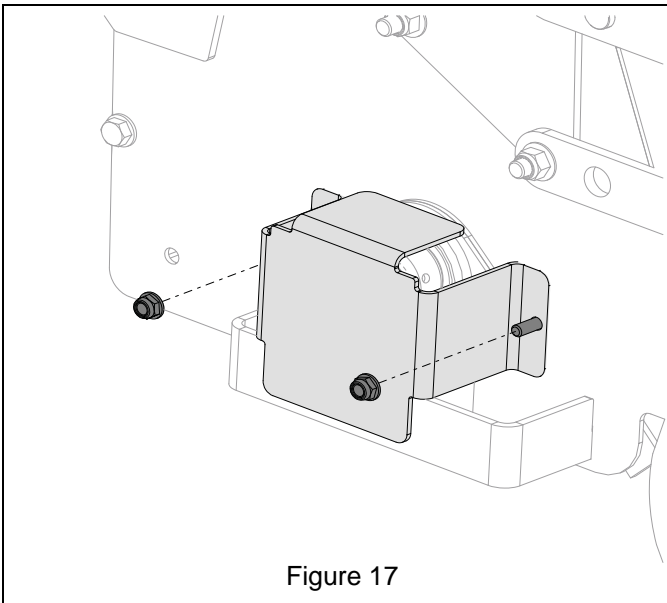

Figure 17
7. Secure right end cover with hardware removed earlier. See Figure 17.